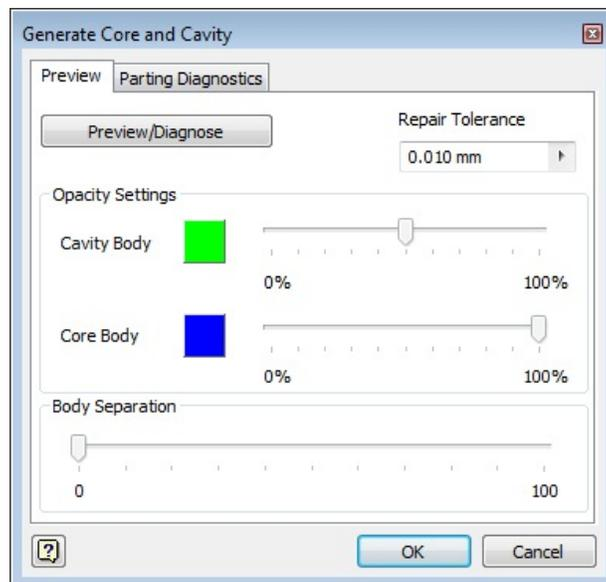

Figure 19-78 The Generate Core and Cavity dialog box
1. Choose the **Generate Core and Cavity** tool from the **Parting Design** panel in the **Core/Cavity** tab of the **Ribbon**; the **Generate Core and Cavity** dialog box is displayed, as shown in Figure 19-78.